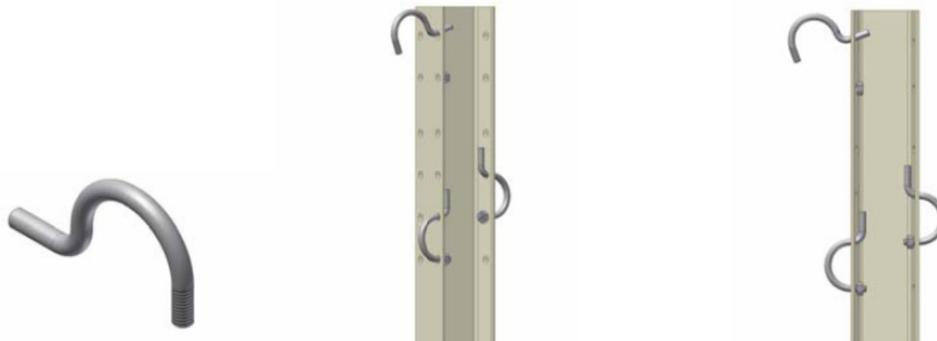

Figure 7 Placement of the Cable Lock Bolt
6. The cables are attached to the posts using cable lock bolts (PN-5825G) (See Figure 7).